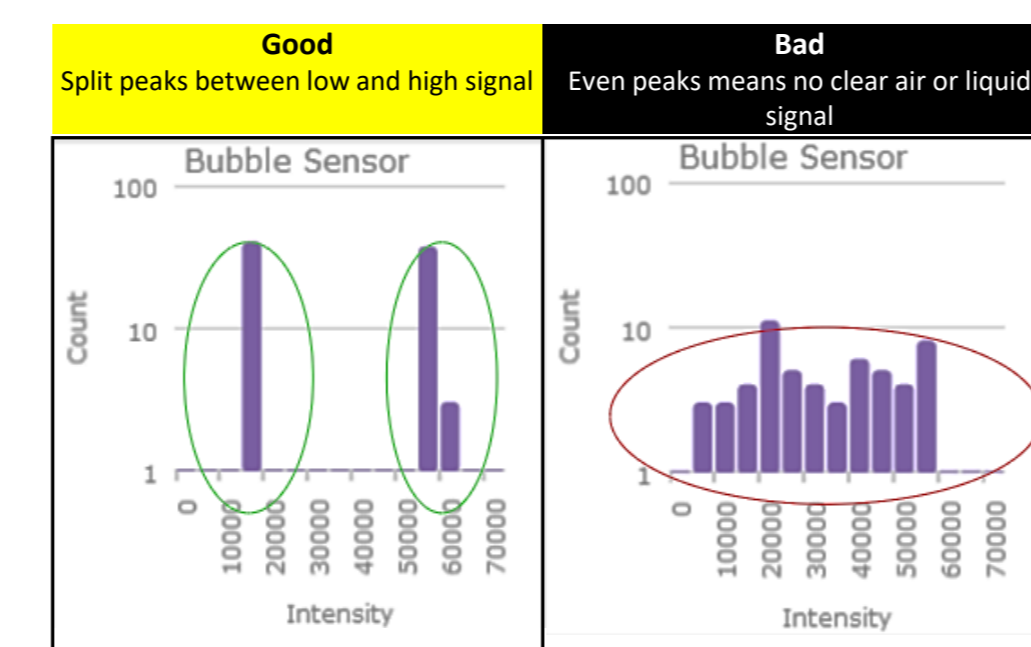

Figure 1: Bubble Sensor Data
- Bubble Sensor data (Figure 1) – Displayed as two clear peaks split between high and low intensity values representing the air and liquid slugs (left).